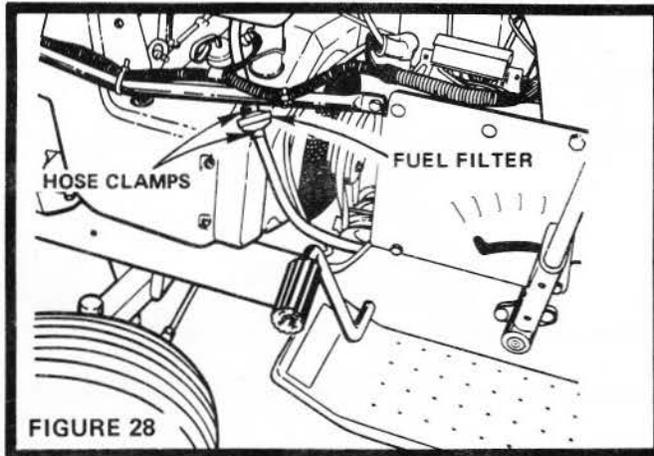

FIGURE 28
- With Engine cool, remove and plug Fuel Line Sections as removed from both ends of Fuel Filter (Fig. 28).